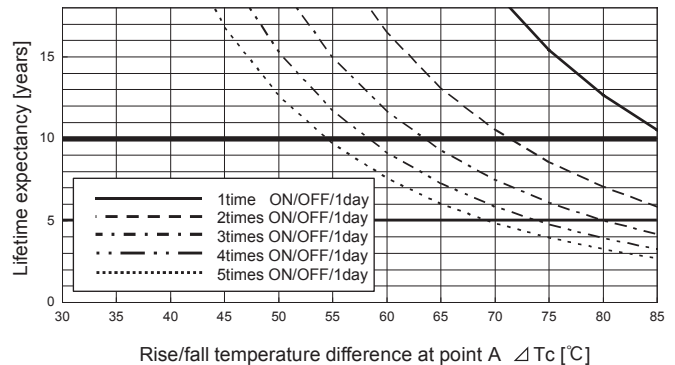
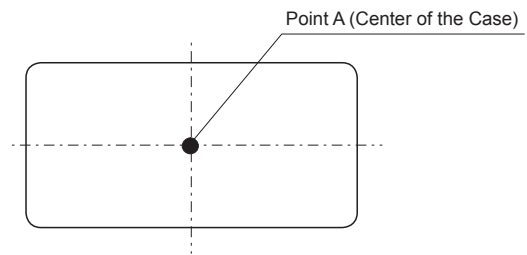

Fig.11.3 Lifetime expectancy against rise/fall temperature difference
Fig.11.4 Temperature measuring point (Top View)
- Product lifetime expectancy depends on case temperature difference ( $\Delta T_c$ ) and number of cycling in a day is shown in Fig.11.3 (It is calculated based on our accelerated process test result.) If case temperature changes frequently by changing output load factor etc., the above the lifetime expectancy design should be applied as well. And point A which is shown in Fig.11.4 must keep below 110°C.
- The warranty period is basically 10 years, however it depends on the lifetime expectancy which is shown in Fig.11.3 if it is less than 10 years.